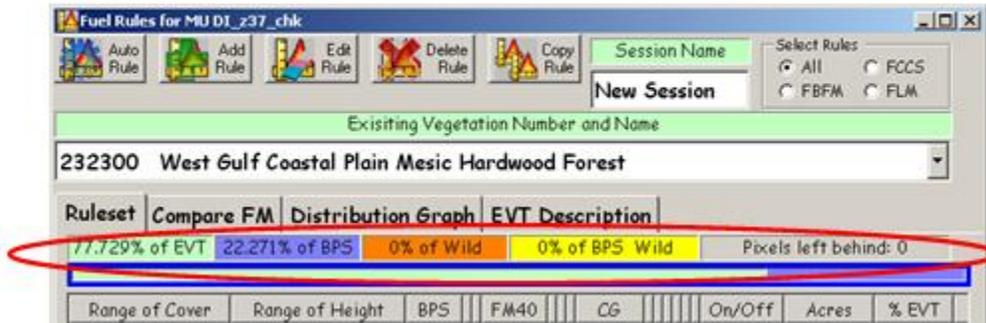

Figure 6-10. **FUEL Rules** dialog box showing percent and pixels left behind.
**Note:** Acres and percent EVT are calculated and appear on the rule set tab indicators when changes are made (fig. 6-10). The percent of EVT, BpS, and Wildcard as shown on the tab indicators